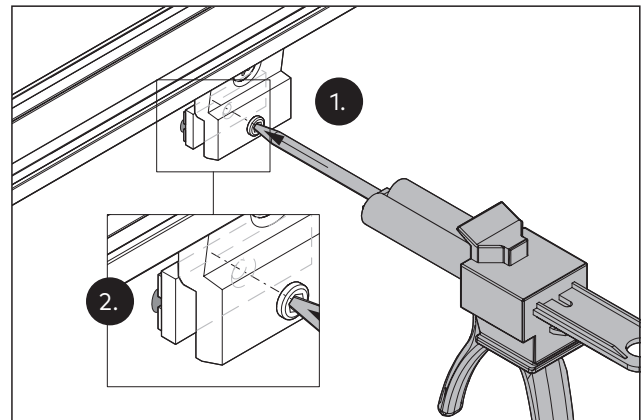

Fig. 10 Sticking the overpanel clamping pieces to the glass
9. Stick the five overpanel clamping pieces through the grub screws to the glass (Fig. 10/1). Stop injection as soon as adhesive escapes from the side. Do not remove the leaked adhesive (Fig. 10/2).